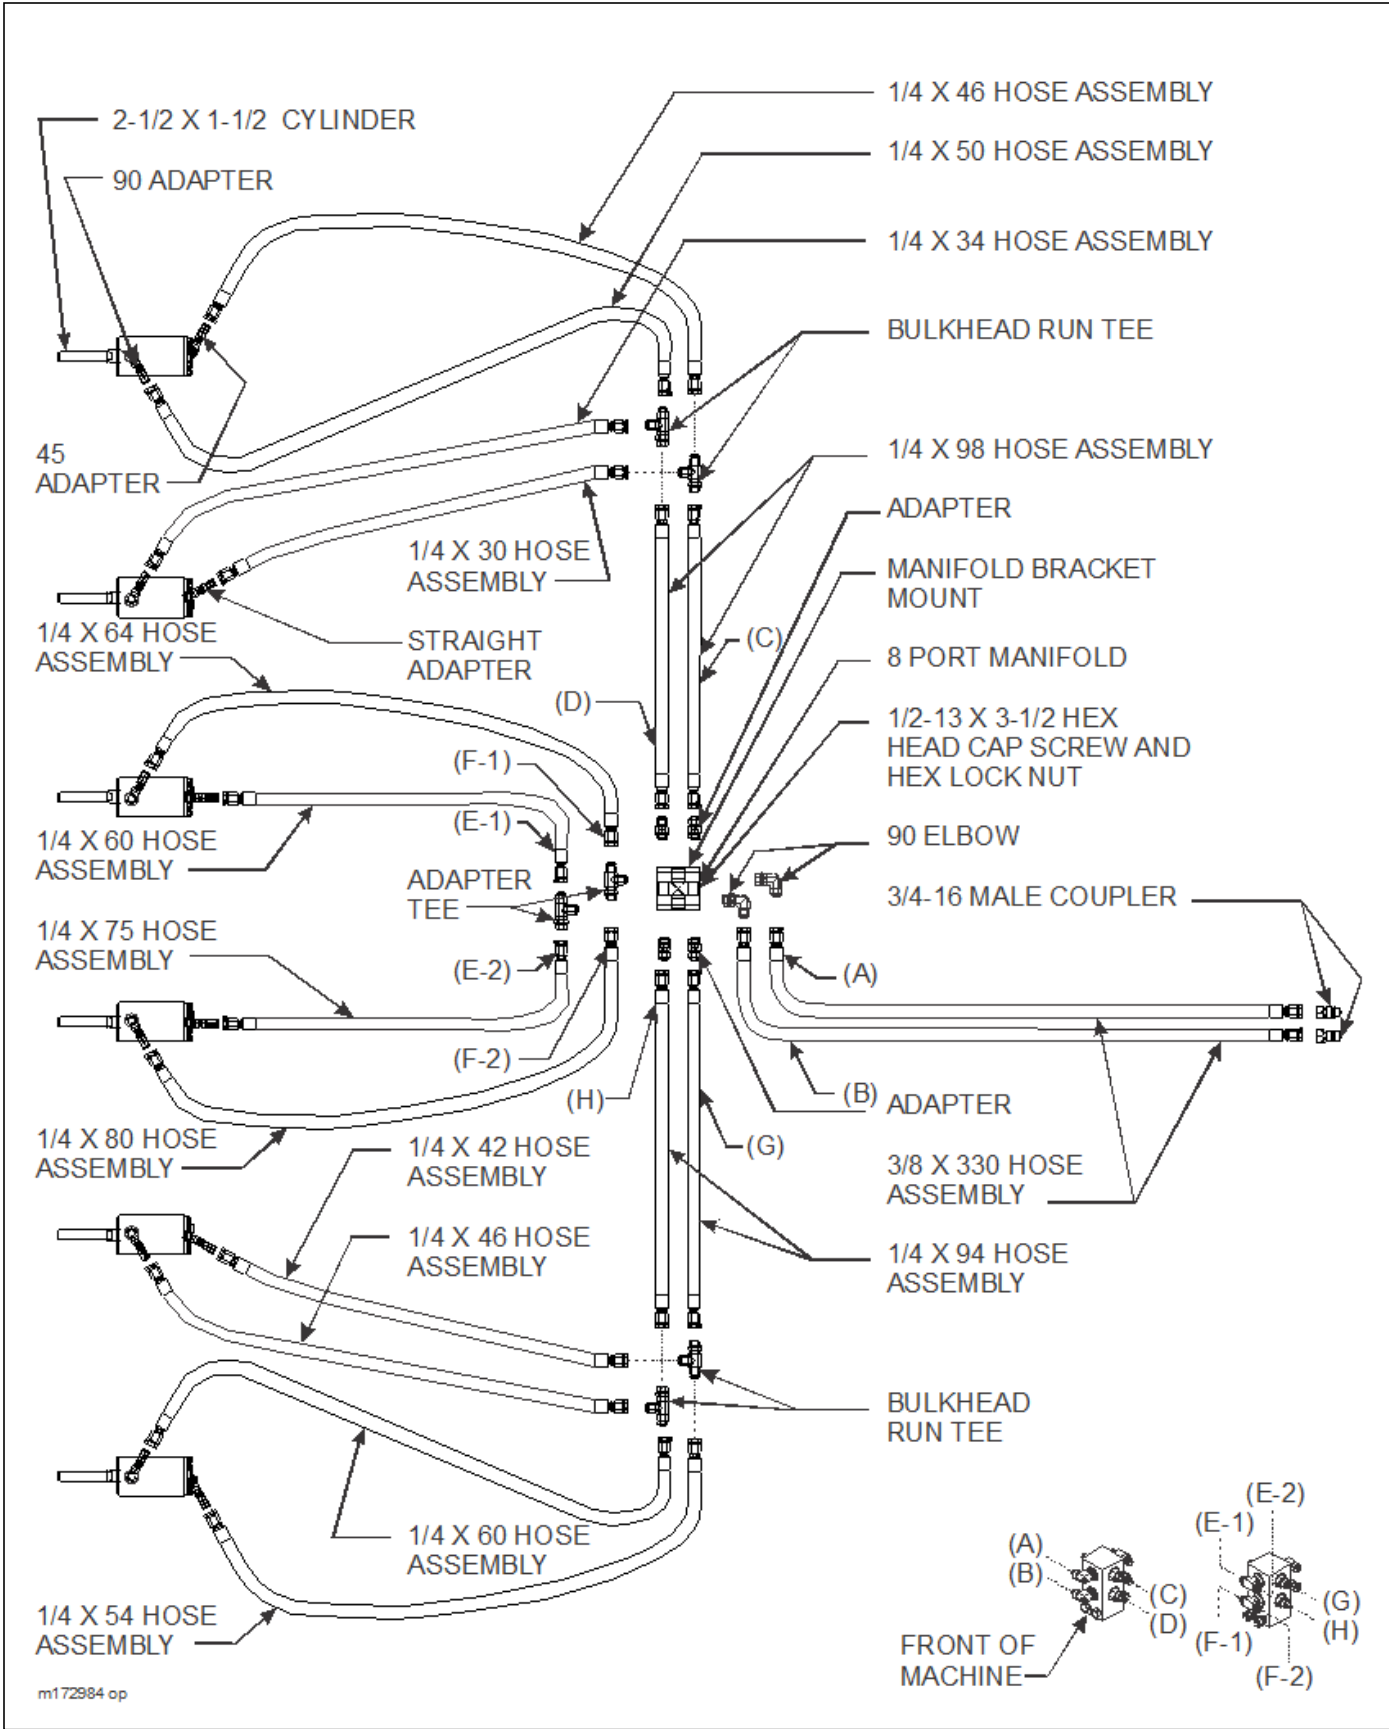

Figure 3-26: Finishing Reel Hydraulic Installation (7431-20)
Refer to **Figure 3-26** for hydraulic diagram for the 7431-20 model.
4. Install fittings into manifold according to **Figures 3-26 thru 3-30.**
5. Install hoses per **Figures 3-26 thru 3-30.**